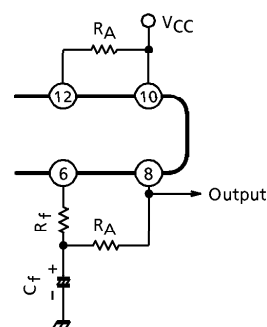

Fig.3
1) In case of the battery use ( $V_{CC} \leq 6V$ ), this IC is happen to oscillate (blocking oscillation) when the impedance of power supply is high. In this case, it is recommended to insert the resistance  $R_A$  of  $500\Omega \sim 1k\Omega$  between ⑩pin and ⑫pin ( $V_{CC}$  - Filter II). By this method, this IC becomes very stable. But the output DC voltage is not center by the influence of  $R_A$ . Then the output wave shape is not symmetrical clipping wave and the maximum output voltage is reduced. So we recommend to insert the other resistance  $R_B$  between ⑥pin and ⑧pin for compensating the output DC voltage.
2) When you use this IC at the supply voltage of more than 6V, it is better to insert the resistance  $R_B$  for compensating output DC voltage. (Fig.3)